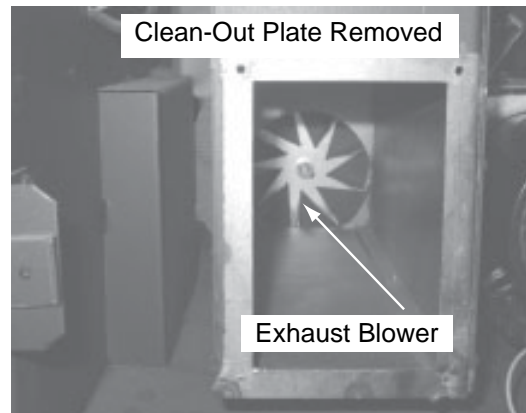

Figure 4.4
3. Use a small vacuum hose attachment to clean area. **Figure 4.4.**